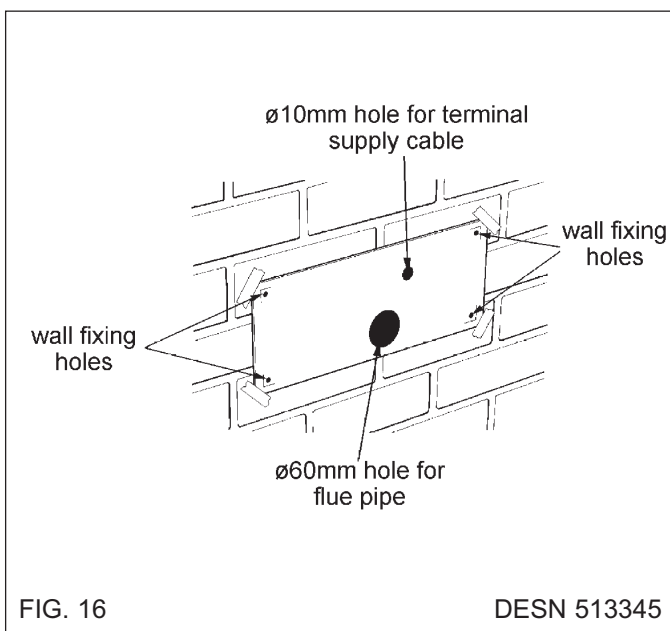

FIG. 16
2. Cut $\varnothing 60\text{mm}$ hole in the wall for the flue pipe (See Fig. 16).
3. Drill 4 wall fixing holes through template (1 in each corner). (See Fig. 16).